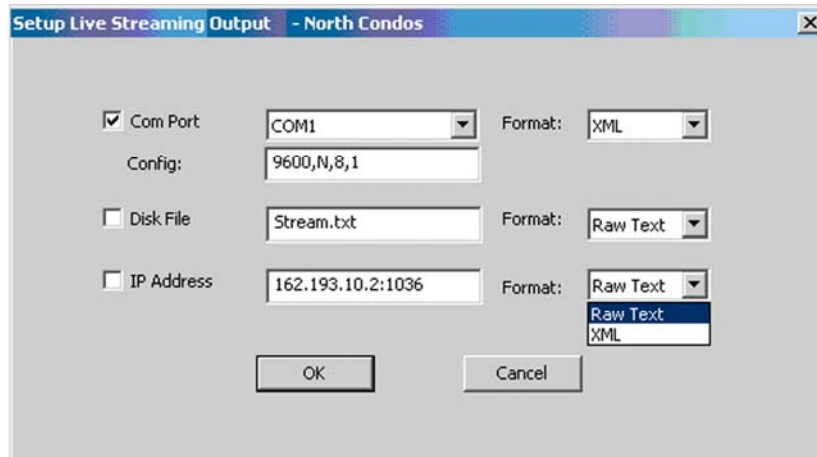

Figure 63
3. Go to the SYSTEM INFORMATION screen and click LIVE STREAMING to open the ‘Setup Live Streaming Output’ window (Fig 63).